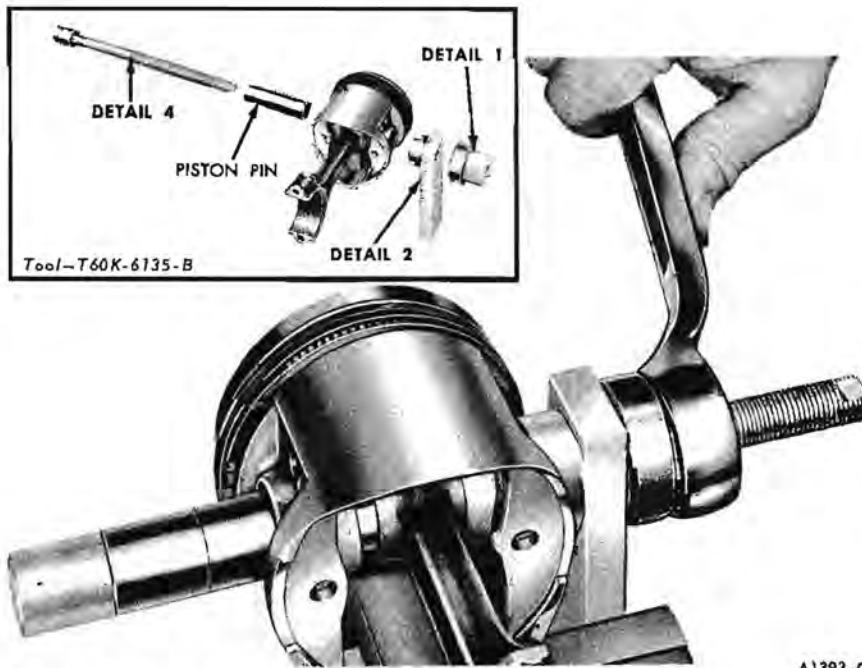

FIG. 43—Piston Pin Installation
2. Start the piston pin in the piston and connecting rod. Draw the piston pin through the piston and connecting rod until the end of the pin seats in Detail 2 (Fig. 43).